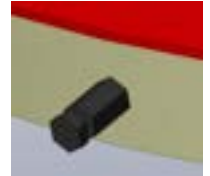

Fig. 2-5
Step 4 - If installing a ramp, place the ramp by locating the ramp shoulder bolt and placing it into the slot in the ramp. It is highly recommended to anchor the ramp to the floor. (See Fig. 2-5)